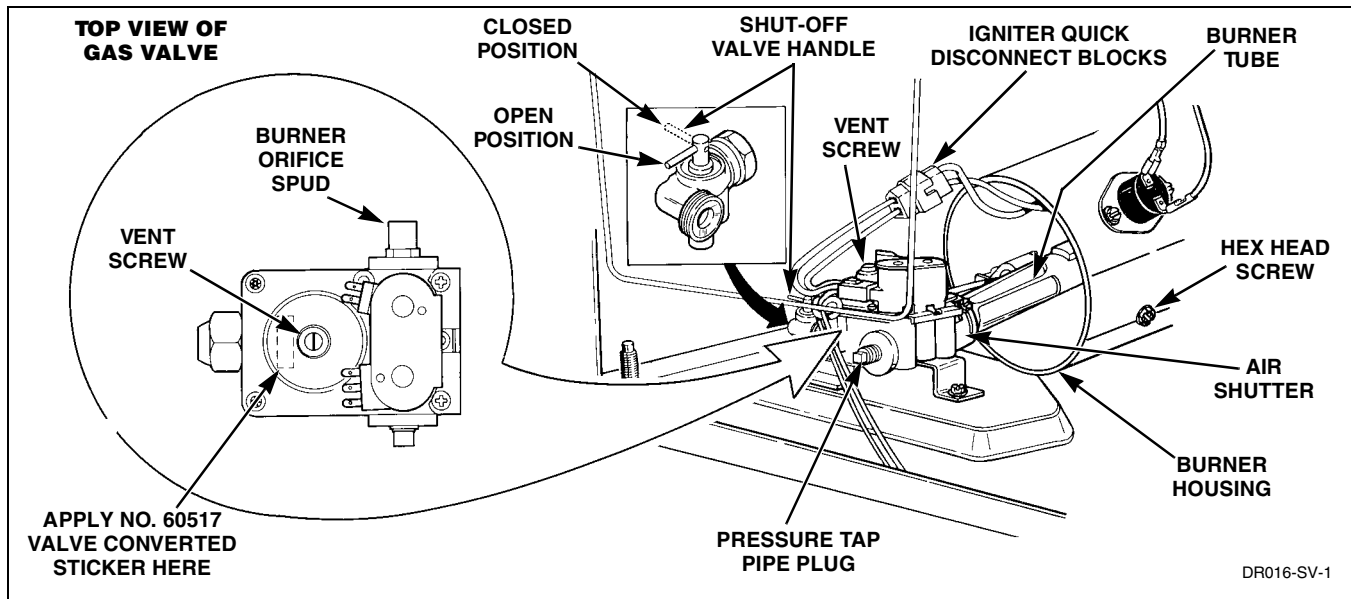

Figure 43
<p>To reduce the risk of fire and explosion, reach in through access door opening and turn the gas line shut-off valve handle to the closed position, Figure 43.</p>
- b. Disconnect igniter wires at quick disconnect blocks. Refer to *Figure 43*.
- c. Remove hex head screw holding burner tube and igniter in place. Refer to *Figure 43*.
- g. Remove vent screw and install No. 58754 Block-Open Plug. Refer to *Figure 43*.
- h. Install No. 60517 "Valve Converted to L.P. Gas" Sticker to top side of gas valve so it covers the gas valve part number. Refer to *Figure 43*.
- k. Turn the gas line shut-off valve handle to the open position and connect electrical service. Refer to *Figure 43*.
- (1) Remove pressure tap pipe plug. Refer to Figure 43.
- (3) Start dryer, pressure should be 10 ± 1.5 inches (25.4, \pm 3.8 cm). Refer to Figure 43.
(4) Stop dryer and remove "U" tube and reinstall the pressure tap pipe plug. Refer to Figure 43.